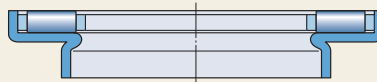

Fig. 4
- Depending on the design, an intermediate washer can be shaft or housing centred (fig. 3 and fig. 4).